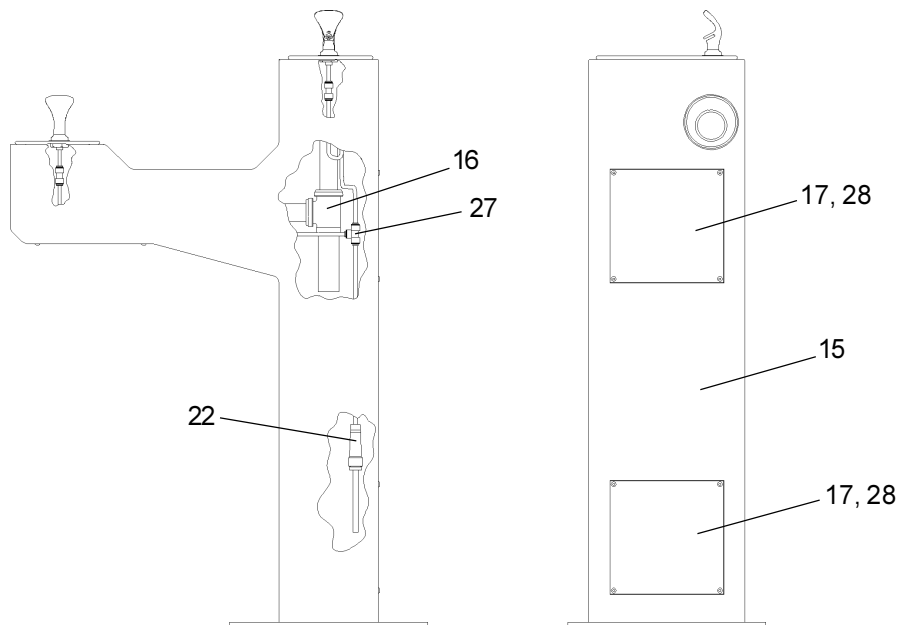

FIG. 5
STREAM HEIGHT ADJUSTMENT: Stream height is factory set at 35 PSI. If supply pressure varies greatly from this, remove items 10 and 11 (See Fig.5) and adjust screw on item 24. Clockwise adjustment will raise stream and counter-clockwise adjustment will lower stream. For best adjustment, stream should hit basin approx. 6-1/2" from bubbler.